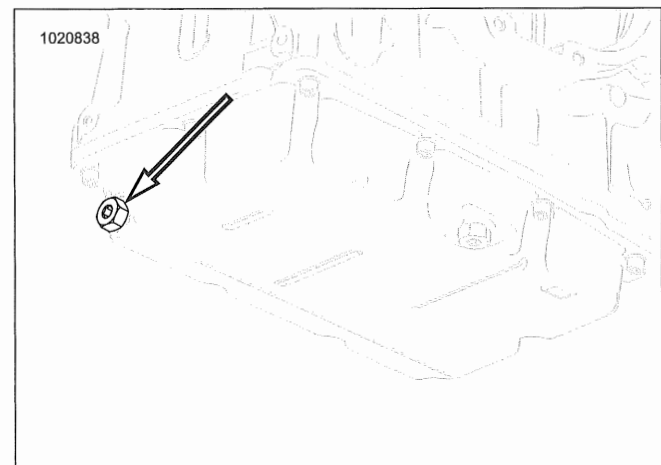

Figure 2-3. Engine Oil Drain Plug
3. See Figure 2-3. Remove the oil drain plug (2) and O-ring. Allow oil to drain completely.